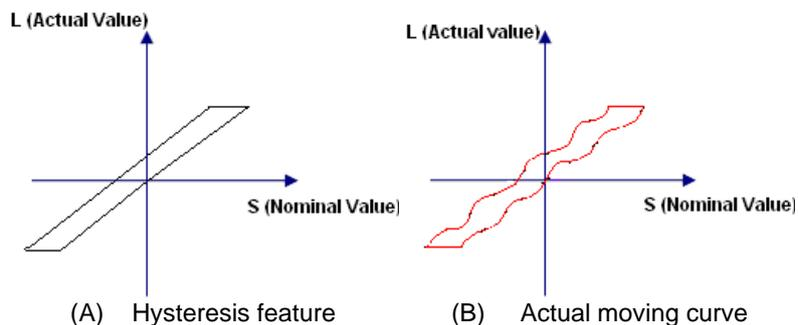

Fig. 4-42 Analysis of Backlash
Hysteresis feature is caused by forward and reverse clearance. Assume that driving shaft drives driven shaft in negative (CW) rotation, servo motor will be idling without moving worktable because of mechanical driving chain backlash, when the driving shaft suddenly begins CCW rotation (positive motion). After staying at a certain position for some time, the worktable will move backward with the driving shaft; when the direction of the driving shaft changes again, the situation is the same, which is called Hysteresis. If pitch error doesn't exist, under ideal condition, the moving curve of worktable is shown in Fig. 4-42(A), in which the curve of horizontal section is during the idling of servo motor without worktable movement. The actual moving curve of worktable is shown in Fig. 4-42(B).